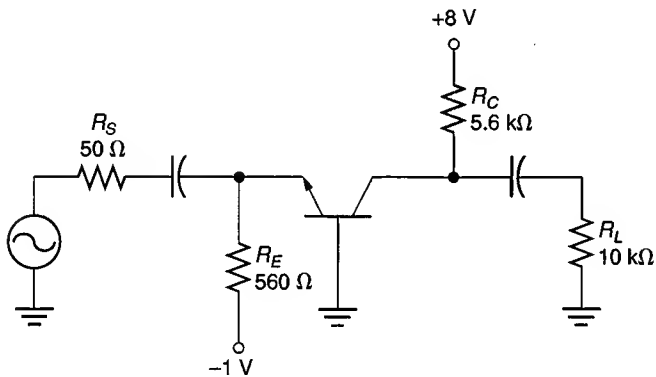

FIGURE 10.29
24. Determine the value of A_v for the amplifier in Figure 10.29.
26. Determine the values of Z_{in} and Z_{out} for the amplifier in Figure 10.29.